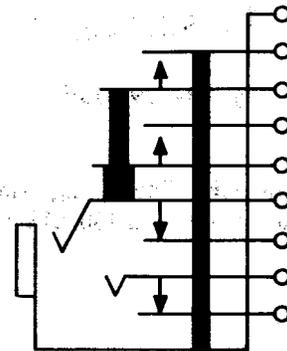

Fig. 8—290CM Jack
**2.08 290CM:** The 290CM (Fig. 8) is a single-mounted jack and is used with the 310 or similar-type plugs. This jack is intended to be mounted with the springs in a vertical plane. The terminals of this jack are arranged for mechanically wrapped connections.